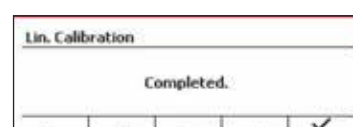

Figure 18
- The message "Completed" will display on screen. (See Figure 18)